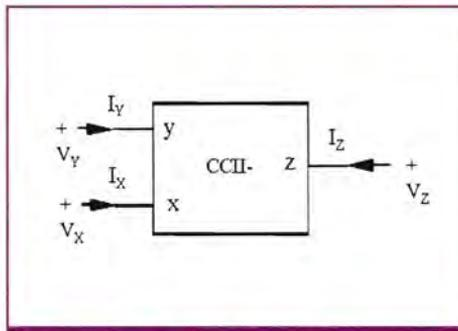

Figure 1: Circuit symbol of CCII-
In one implementation of the floating serial RL circuit (see Singh, V.'s "A new Active RC Circuit realization of Floating Inductance", 1979, *Proc. of the IEEE*, 67, (12), pp. 1659-1660), negative type the second-generation current conveyor (CCII-) is used. The circuit symbol of (CCII-) is shown in **Figure 1**. Considering the non-idealities arising from the physical implementation of CCII-, its terminal relationship can be given as: